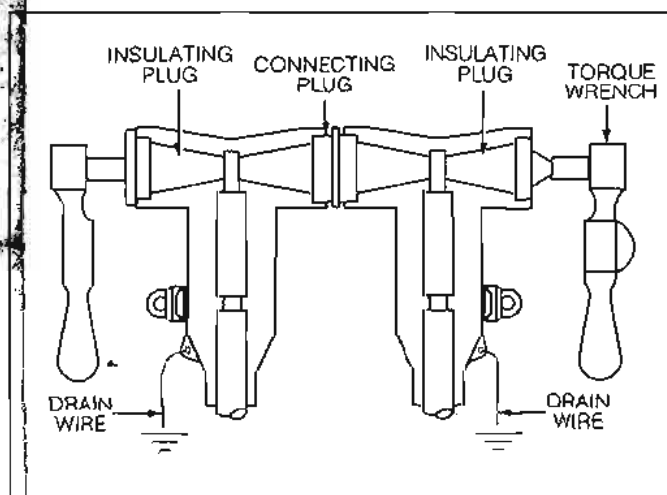

Figure 18.
- Secure the first insulating plug using a 1" wrench. Using a 1" socket on a torque wrench tighten the second insulating plug to 55 ft-lbs. (Refer to Figure 18.)